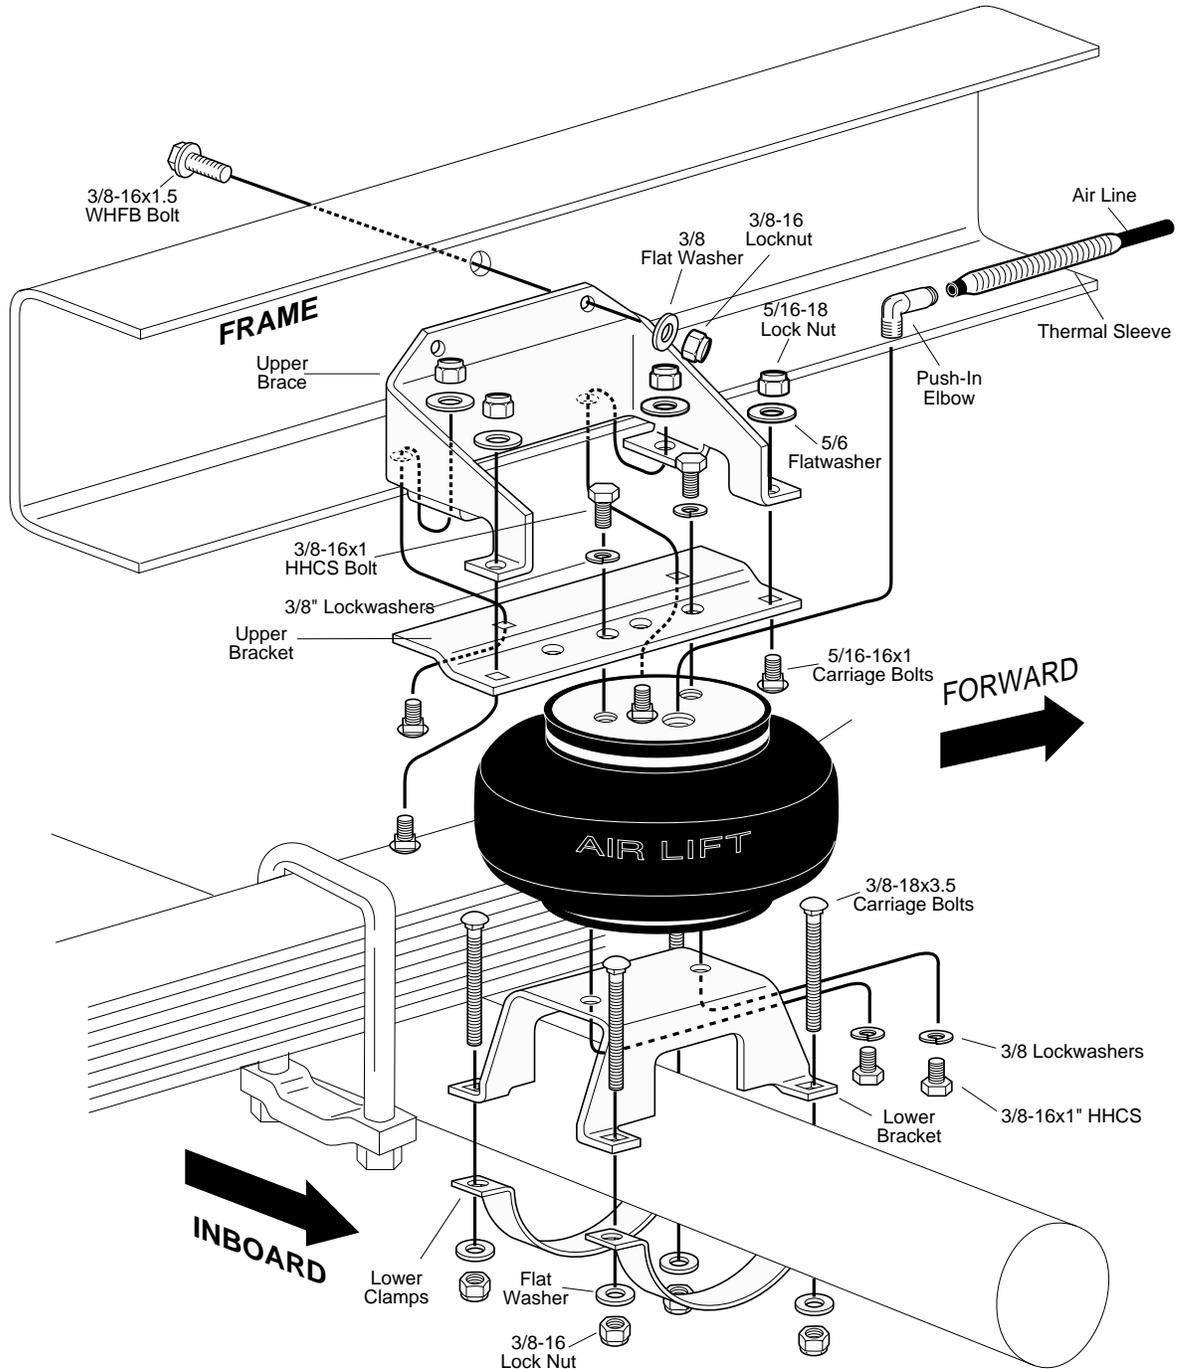
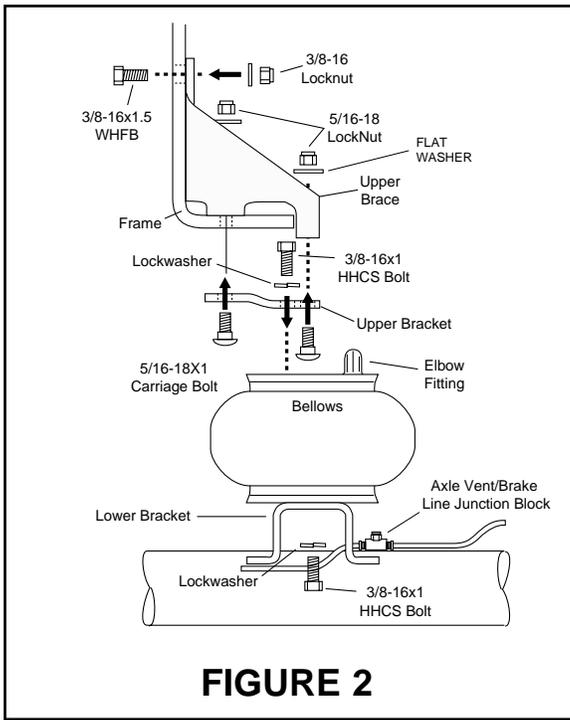
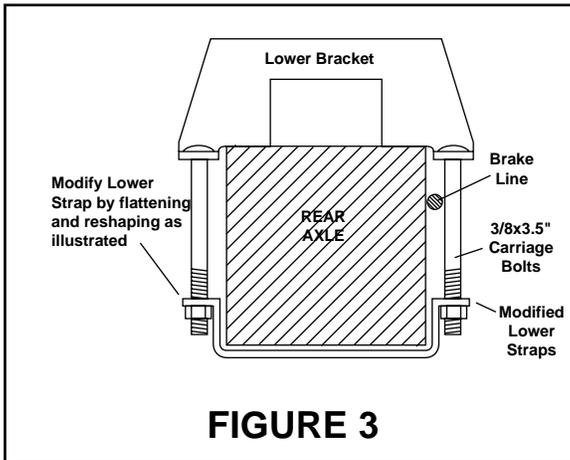
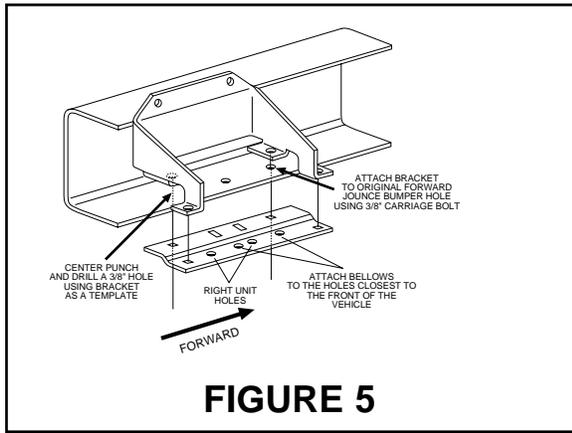

FIGURE 1
FIGURE 2
FIGURE 3
FIGURE 5
2. Position the bellows with the air port down. Secure the lower bracket to the bellows using two 3/8x16x1" hex head bolts, and two 3/8 lock washers (Figure 2). Assemble left and right units. Tighten to 20 ft-lbs.
3. Position the bellows with the air port up. Install the air fitting on the top side of bellows. Tighten finger tight plus two turns. **Use a 9/16" open end wrench being careful to tighten on the metal hex nut only. DO NOT OVER TIGHTEN.** This fitting is precoated with thread sealant. Be sure to position the air fitting so that it faces the front of the vehicle (Figure1). Repeat for other side.
5. Insert 5/16" carriage bolt into the front outboard hole in each upper bracket (Figure 5).
6. Attach upper bracket to bellows using two 3/8-16x1" HHCS and lock washers (Figure 2). Assemble both sides, making sure to use the correct set of holes (Figure 5). Tighten to 20 ft-lbs.
7. Set the assembly into place on the axle, inboard of the leaf spring (Figure 1 & 2). **Note:** For pre-1973 chassis (Figure 3), you may need to reform lower straps for square axle housing. This can be accomplished with a bench vise. Insert upper brace into frame rail (Figure 1, 2 & 5). Slide it under any lines or wires so that it is against the frame. Align the bottom holes of the upper bracket with the front jounce bumper hole in the frame. Insert the front carriage bolt, inserted in step 5, through the frame rail and the upper brace. Loosely assemble unit with a 5/16" lock nut. Drill remaining hole with a 5/16" drill bit, using bracket as a template. Insert another carriage bolt up from the bottom through upper bracket, frame and upper brace. Secure loosely with lock nut. Some vehicles will have an existing hole in the frame that will match one of the holes in the upper brace. If no hole exists, drill one 3/8" hole using the upper bracket as a template (Figure 5). Insert a 3/8x1.5"WHFB through the frame from the outside. Attach 3/8" lock nut and securely tighten this bolt to 20 ft-lbs., insuring that the brace fits tightly against inner frame rail (Figure 1). Tighten nuts holding upper brackets, frame and inner brace securely. Insert two 5/16" carriage bolts upward through the other holes in the upper bracket and upper brace and retain with lock nuts. Tighten to 20 ft-lbs.
8. Insert carriage bolts down through lower bracket holes and lower clamps and loose assemble with flat washers 3/8-16 nuts. Note: Be sure the brake line is not clamped between the bracket and the axle. Align the lower bracket to obtain the best alignment so that the top and bottom bellow mounting plates are parallel both vertically and horizontally. Hold lower bracket in place while securing carriage bolt with the lock nuts (Figure 1).